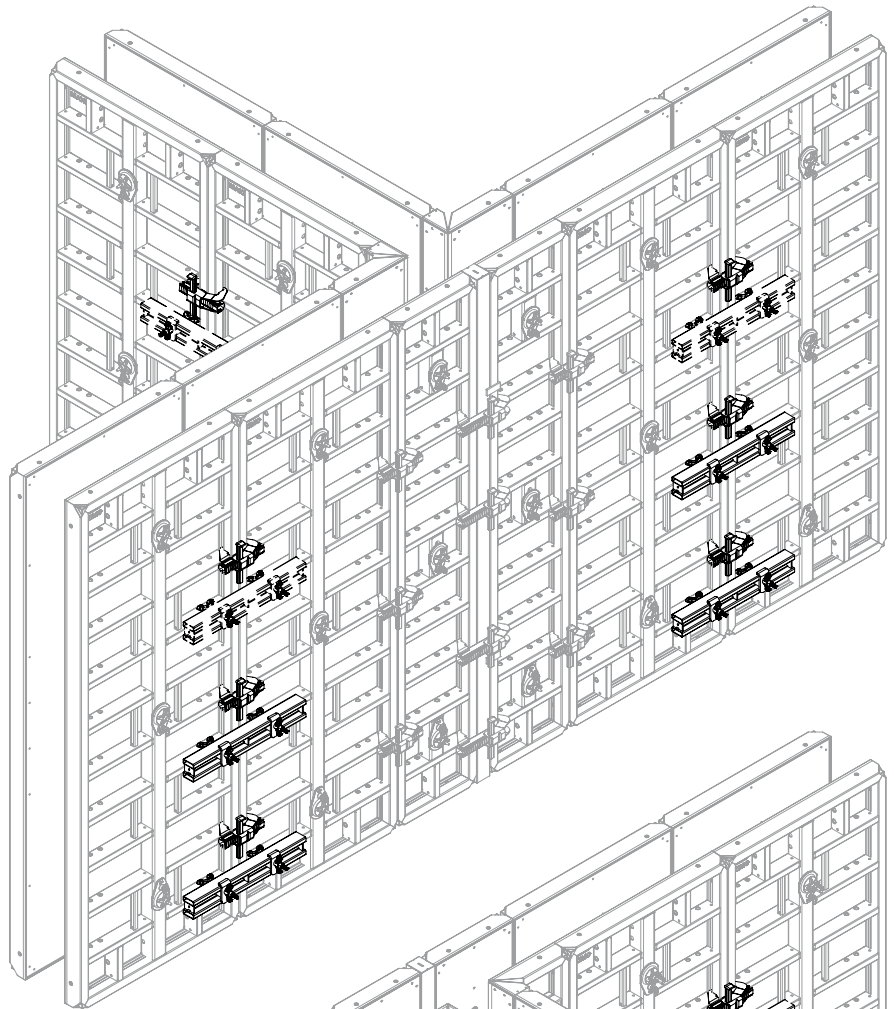

Fig. C6.02
With extensions, a second Compensation Waler MAR 85 (21) is required on the panel joint (shown as a dotted line). (Fig. C6.02 + C6.03)
(Fig. C6.02 + C6.03)